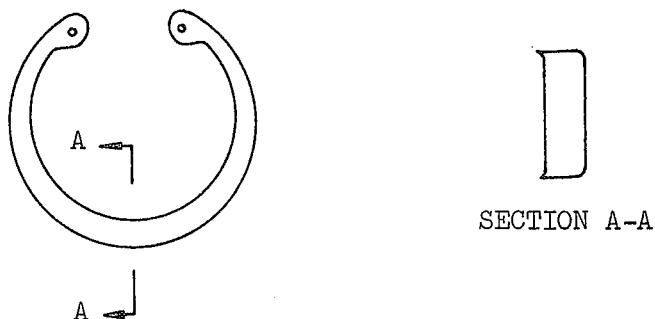
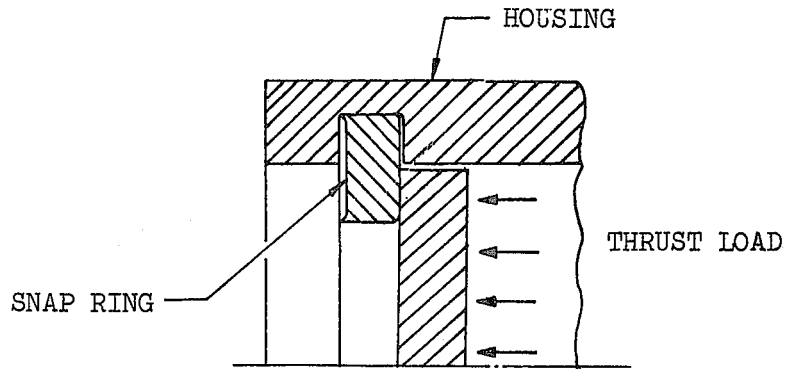

FIGURE 3. SNAP RING
FIGURE 4. DETAILS FOR SNAP RING INSTALLATION
- (4) Normally snap rings are fabricated by "blanking" and have such cross section as shown in figure 3, section A-A. To prevent disengagement from groove, snap ring should be assembled with thrust load applied against its raised surface as illustrated in figure 4.